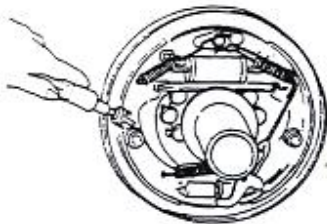

Figure 2-13
(3) Remove the fixing spring on the main brake shoe. See figure 2-13